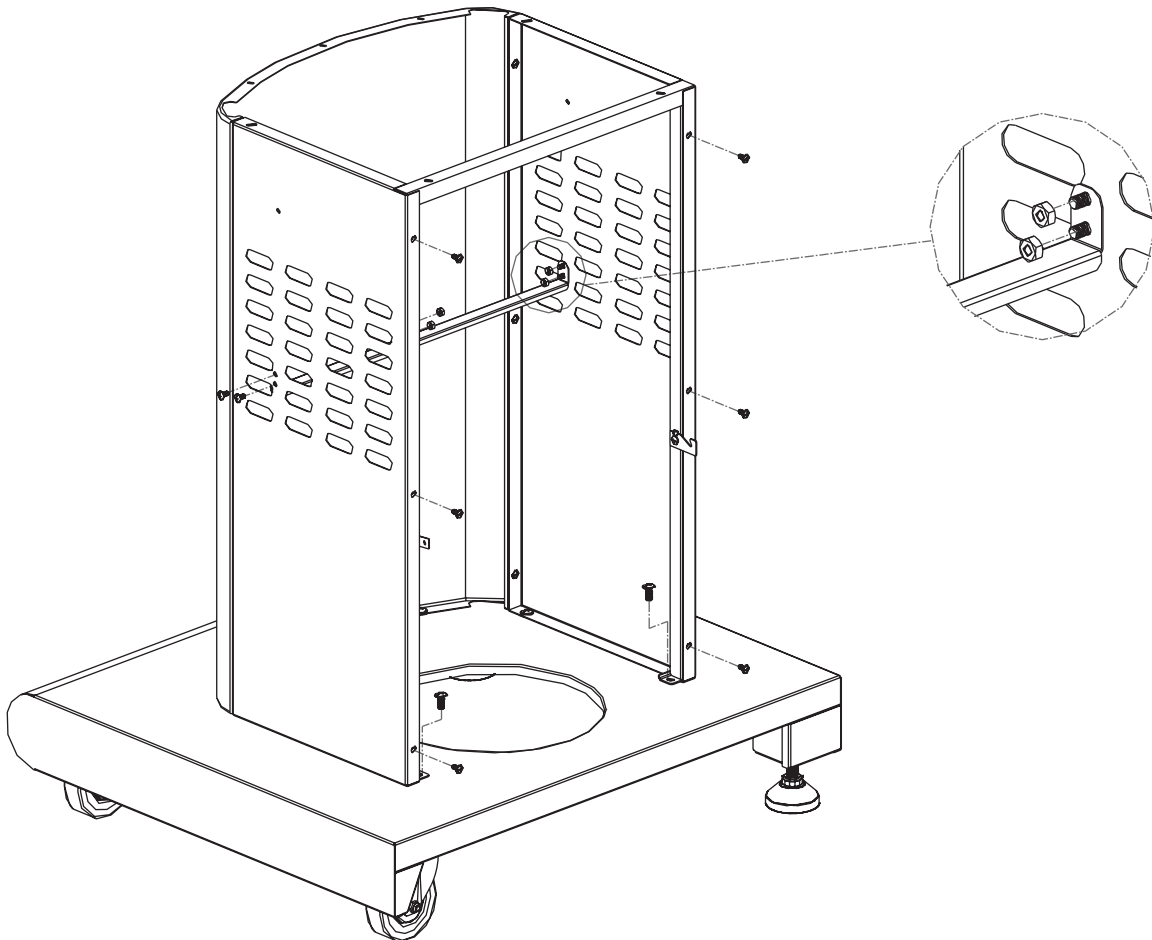

Fig. 3
1. To attach cart frame, align cart frame with side panels as shown in **Fig. 3**.
2. Attach cart frame to left panel and right panel with six (6) M4 x 10 screws (3 on each side) as shown in **Fig. 3**.
3. Attach cart frame to bottom shelf with two (2) M6 x 13 screws (1 on each side) as shown in **Fig. 3**.
4. Position the ends of the tank baffle so that the holes in the ends of the baffle are aligned with the holes in the side panels, then attach the tank baffle to the left and right panel with four (4) M4 x 10 screws (2 on each side) from the outside to the inside, and four (4) M4 nuts on the inside (2 on each side), all as shown in **Fig. 3**.